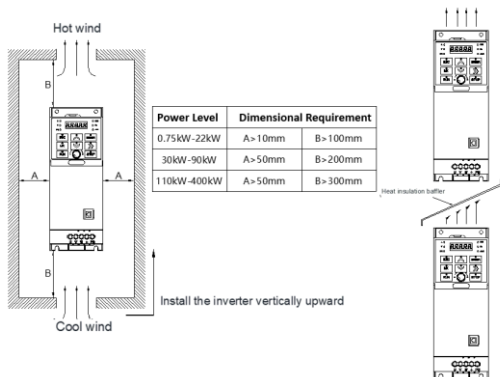

Figure 2-1 Installation Instruction
- 1) Please install the inverter vertically to facilitate the upward heat emission, but cannot be inverted. If there are more inverters in the cabinet. It is better to be put side-by-side. Refer to figure 2-1 for installation of heat insulation baffle where upper and lower installation is required.
- 2) The installation space shall follow the figure 2-1 to ensure the heat dissipation space of the inverter. But please consider the heat dissipation of other devices in the cabinet situation.